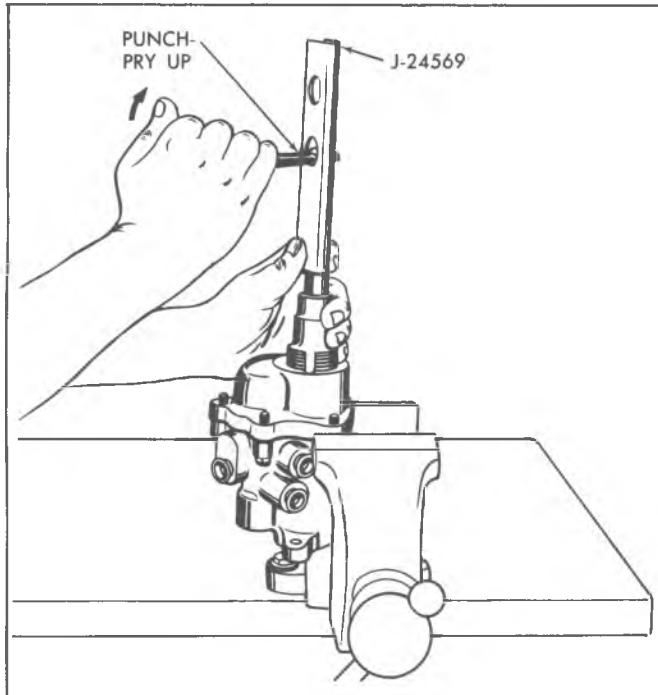

Fig. 5-3E-Removing Booster Pedal Rod (Typical)
3. Place Tool J-24569 around the pedal rod and resting on the input rod end as shown in Figure 5-3E.